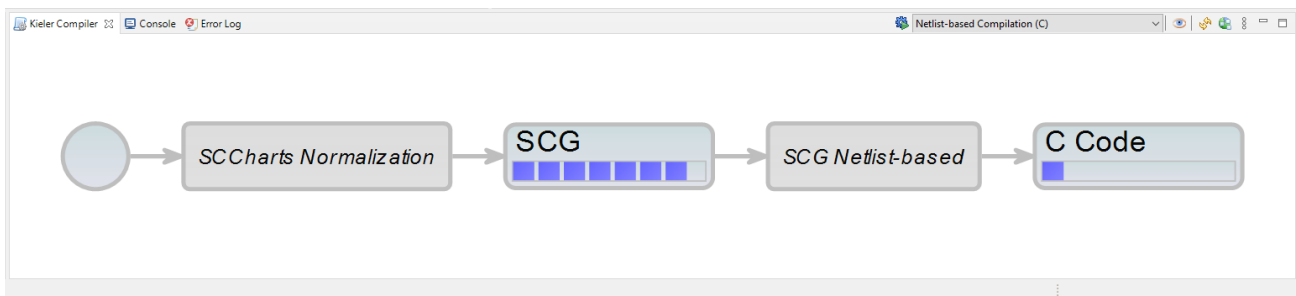

Figure 13 - KIELER Compiler Selection for C Code
There are multiple compiler pathways supported by SCCharts, for generating C Code, Java, etc. We are interested in C code generation so in the drop-down box at the top-right of this panel select “Netlist-based Compilation (C)” (it likely defaulted to “Identity Transformation System”) and invoke a compilation process by clicking the button to the left of this. You should now end up with something that looks like Figure 13.